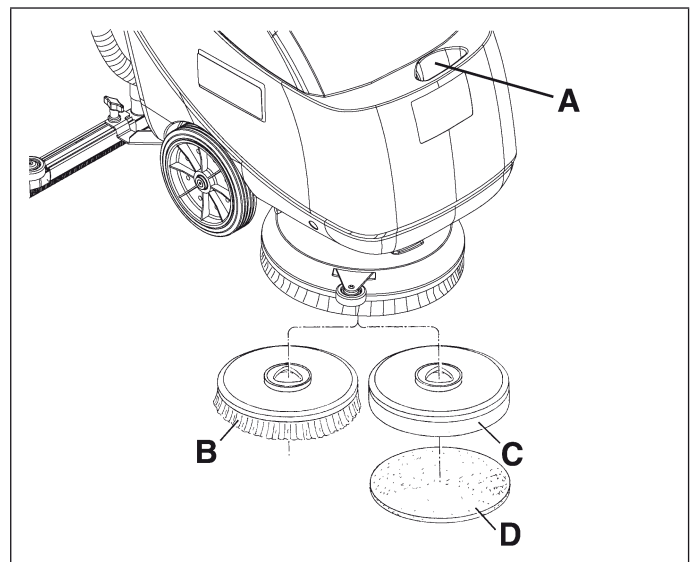

Figure 6
2. Fill the solution tank (A, Fig. 6) with a solution suitable for the work to be carried out.
*According to the kind of cleaning to be carried out, the machine can be equipped both with the brush (B, Fig. 6) and the pad-holder (C) with pad (D).*
5. Place the brush (B, Fig. 6) or the pad-holder (C) with pad (D) under the cover.